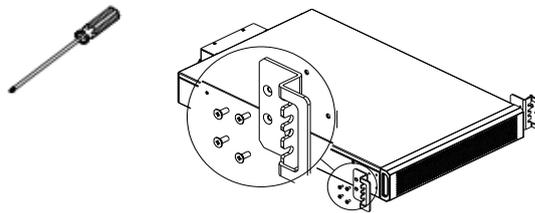

Figure 2-17 Install the mounting ears
2) Fix the two mounting ears on both sides of the front panel of the battery pack with M4×10 screws (8pcs), as shown in Figure 2-17.